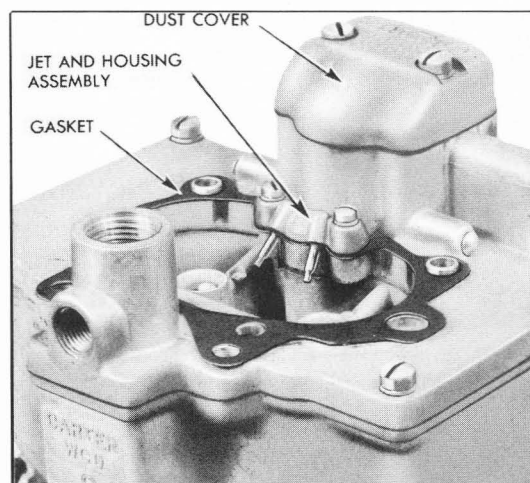

Figure 3-43—Pump Jet and Housing Assembly
5. Remove pump jet and housing assembly and lift off air horn gasket. Remove dust cover. See figure 3-43.